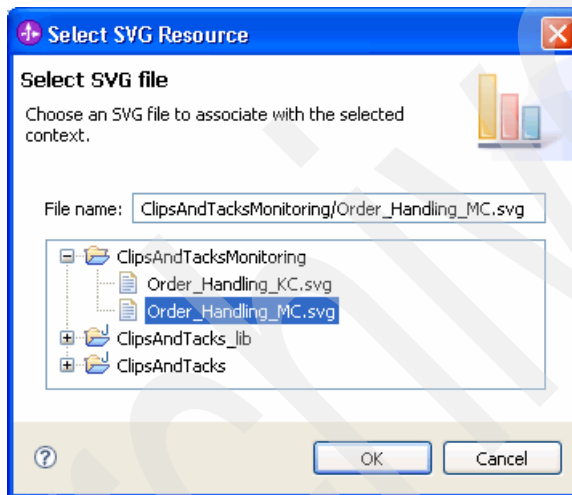

Figure 5-59 Order Handling MC SVG file selection
3. To choose an SVG file, click **Browse**. In the Select SVG Resource window (Figure 5-59), expand **ClipsAndTacksMonitoring** and select **Order_Handling_MC.svg** and click **OK**.